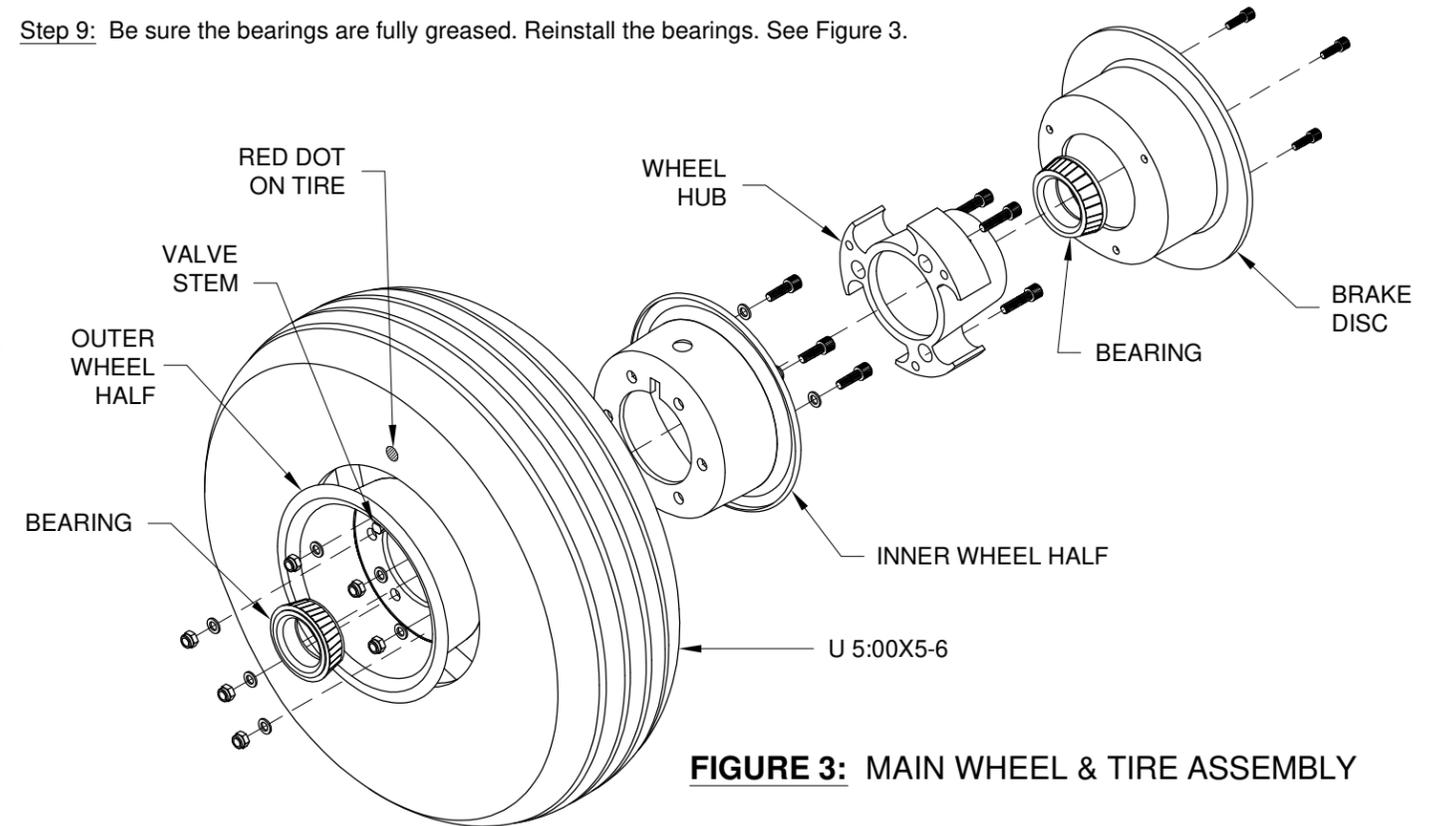

FIGURE 3: MAIN WHEEL & TIRE ASSEMBLY
Step 6: Split the Main Wheel Assembly by removing the cap screws holding the brake disc to the wheel. Remove the bolts holding the inner and outer wheel halves together. Pay close attention to how the bearings and hubs are installed so that they can be reinstalled in the same way. Pull the bearings from the main wheel assembly then clean and dry them. See Figure 3.
Step 7: Remove the nut and washers from the valve stem of the U 5:00X5-6IT Tube (not shown in Figure 3) and discard. Dust the U 5:00X5-6IT Tube and the inside of the U 5:00X5-6 Tire with talcum powder then mount the tube and tire on the inner and outer wheel halves. The red dot on the tire is installed next to the valve stem of the tube (see Figure 3). Bolt the wheel halves together taking care not to pinch the tube between the wheel halves. Carefully observe the manufacturer's bolt torque specifications shown on the document in the wheel/ brake package. Attach the brake disc with the cap screws.
Step 9: Be sure the bearings are fully greased. Reinstall the bearings. See Figure 3.